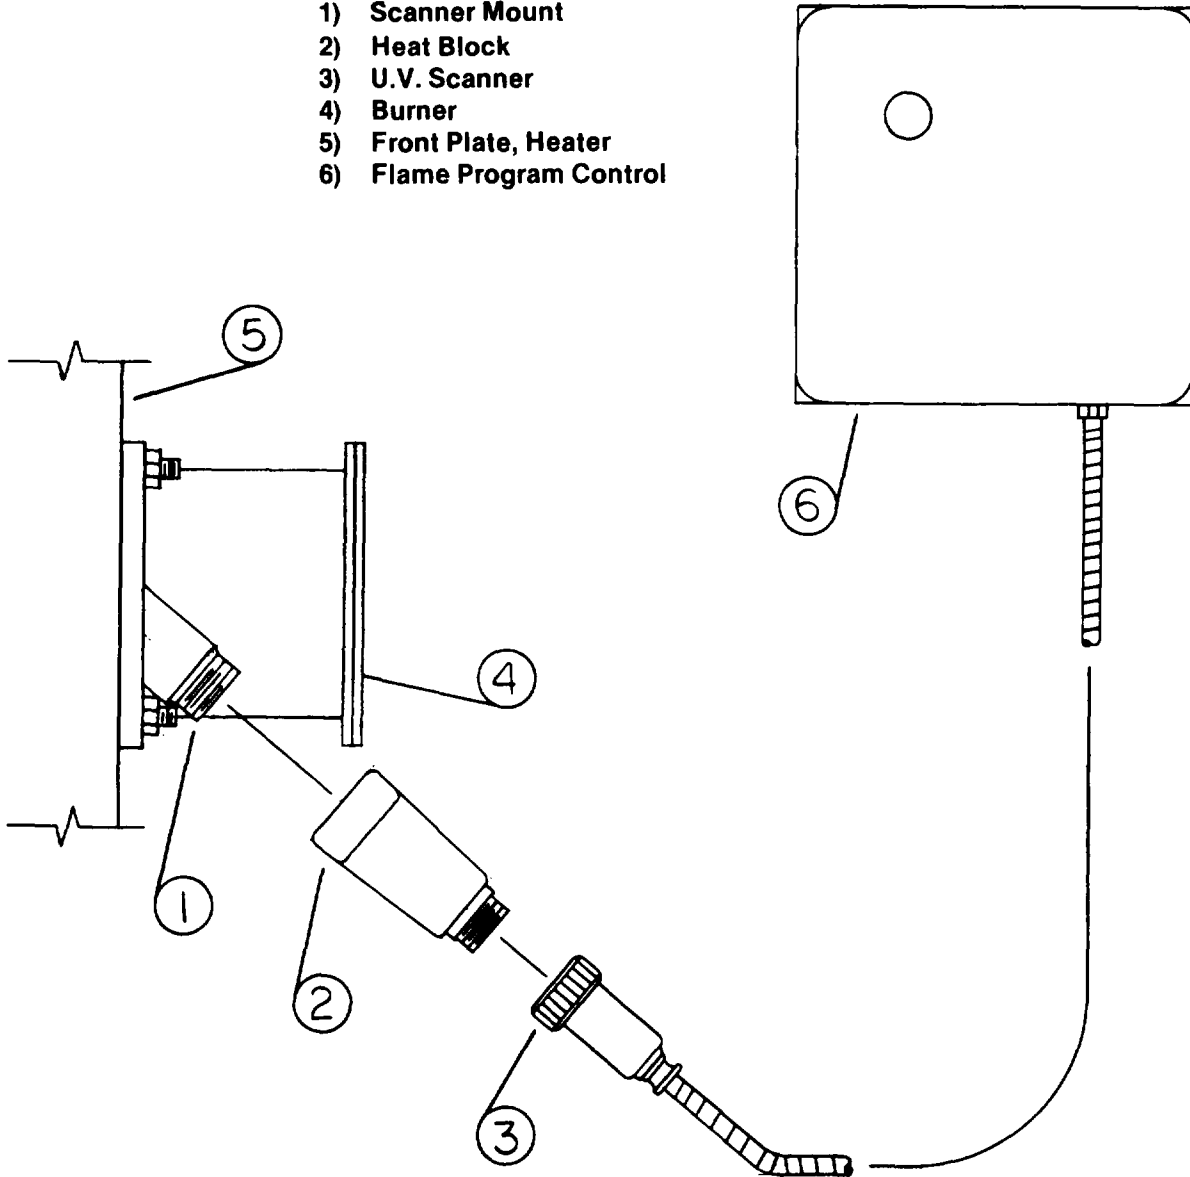

Figure 38. ULTRAVIOLET (U.V.) CELL.
5. If the U V cell does not check out as described in the above, refer to Fig. 38 for removal and/or replacement.
- b. Removal Refer to Fig. 38 and remove the U.V cell and electron tube.
- d. Installation. Refer to Fig. 38 and Install the U.V. cell and electron tube.